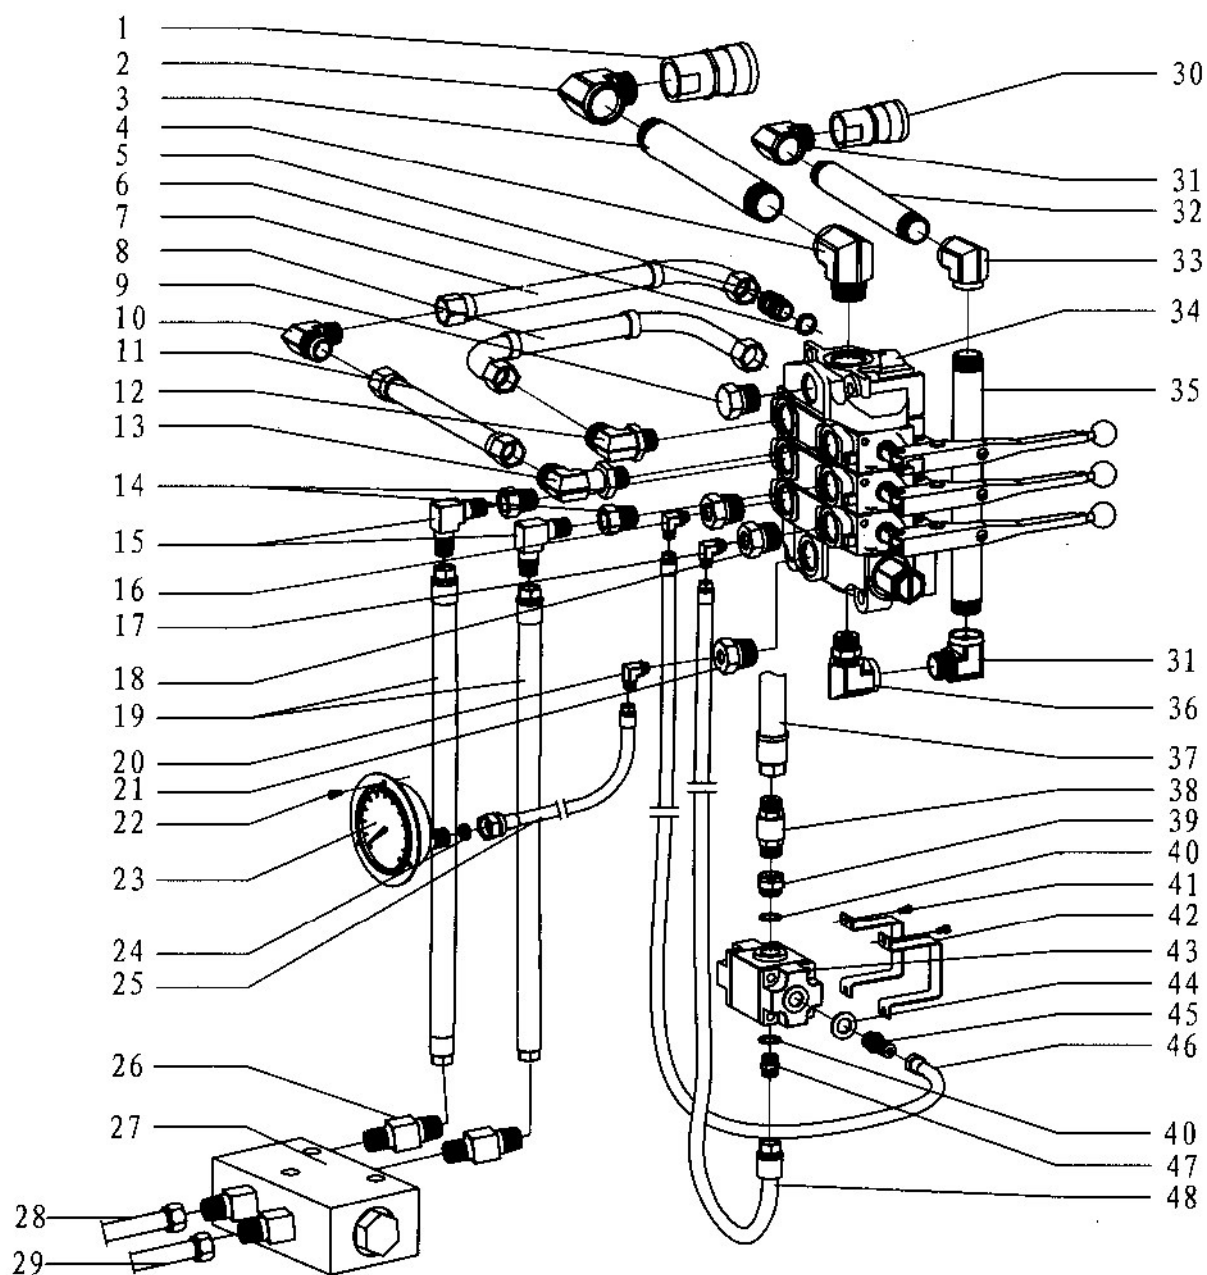

Fig 13
7.10. Hydraulic combination valve and tube (Fig13, Table12)